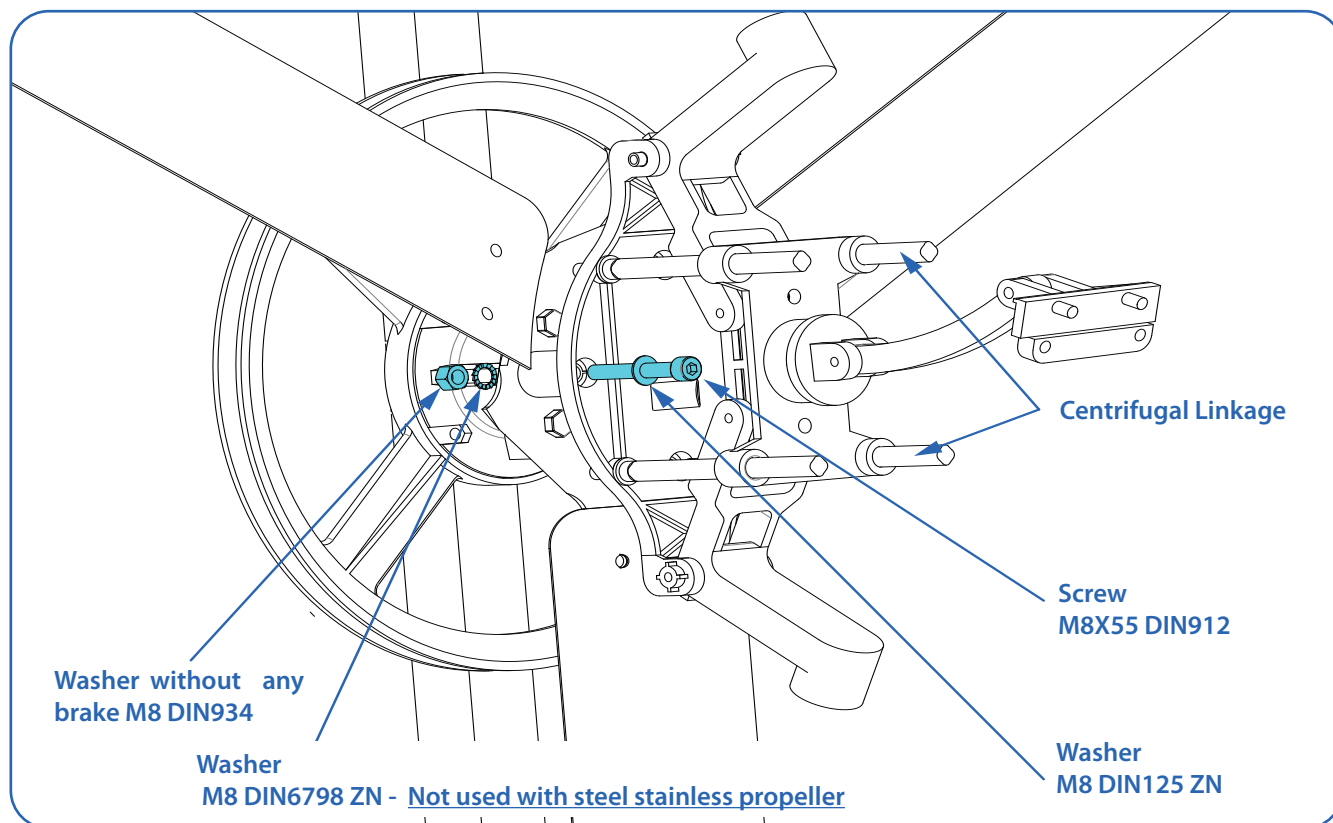
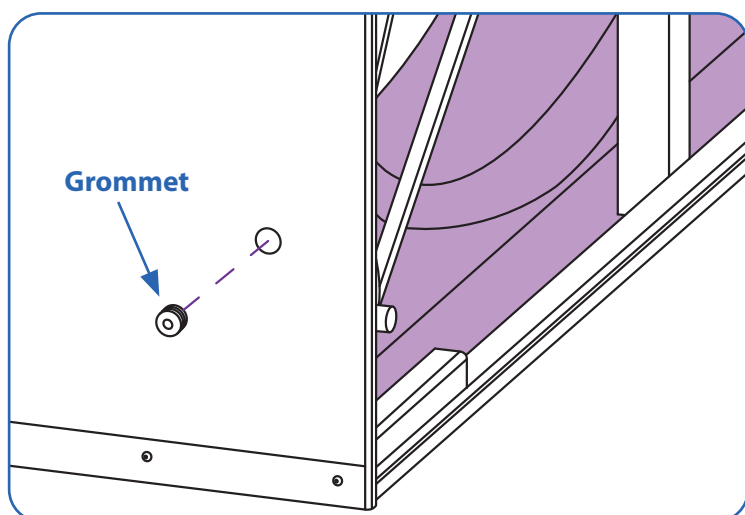

Fig. 69. Assemble the centrifuge. Position of the screws, washers and nuts.
Fig. 70. Put the grommet inside its corresponding hole on the left side.
Regarding the first connection, make sure that the propeller turning direction fits the clockwise direction (Fig. 70) the turning direction is also indicated on the central pulley (Refer to Figure 69).
Put the grommet (08) on the left side and then remove the cable out of the motor. The grommet works to avoid the plate cutting the cable and cause a circuit – cut (Fig 70). Completely stretch the cable out of the fan in order to prevent a certain part from remaining beside the motor pulley and cause a short – circuit because of friction.